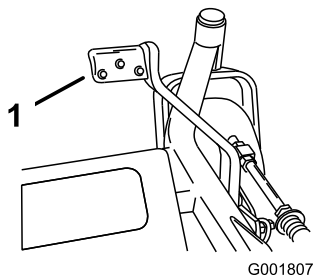

Figure 27
2. Press on the lift assist lever while pulling up on the height-of-cut lever (Figure 27).